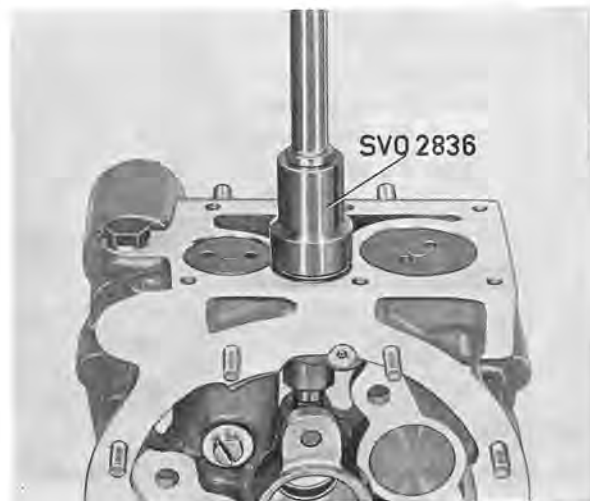

Fig. 4-45. Removing plug
2. Remove the plug under the relief valve with tool 2836, see Fig. 4-45. Pull out the large piston